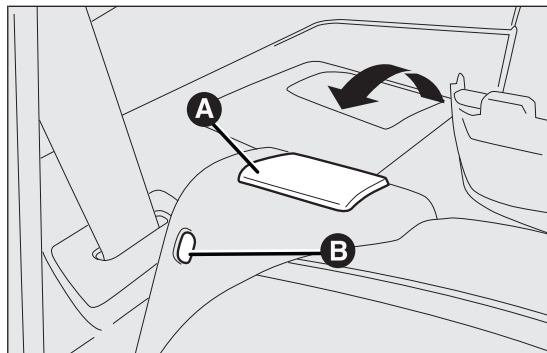

fig. 72
- ❑ *for versions with split rear seat:* lift backrest retainer lever A fig. 72 and fold the backrest forwards to obtain a flat loading area. When you lift the lever, you will see a red band B fig. 72.